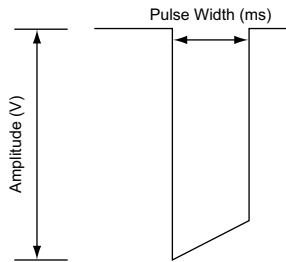

Figure 2-6. Pulse waveform
- The energy delivered to the heart is directly proportional to the pulse width; doubling the Pulse Width doubles the energy delivered. Therefore, programming a shorter pulse width while maintaining an adequate safety margin may increase battery longevity. To prevent loss of capture, exercise caution when you are programming permanent pulse width values of less than 0.3 ms (Figure 2-6 on page 2-13).
The pulse Amplitude, or voltage of the output pulse, is measured at the leading edge of the output pulse (Figure 2-6 on page 2-13).